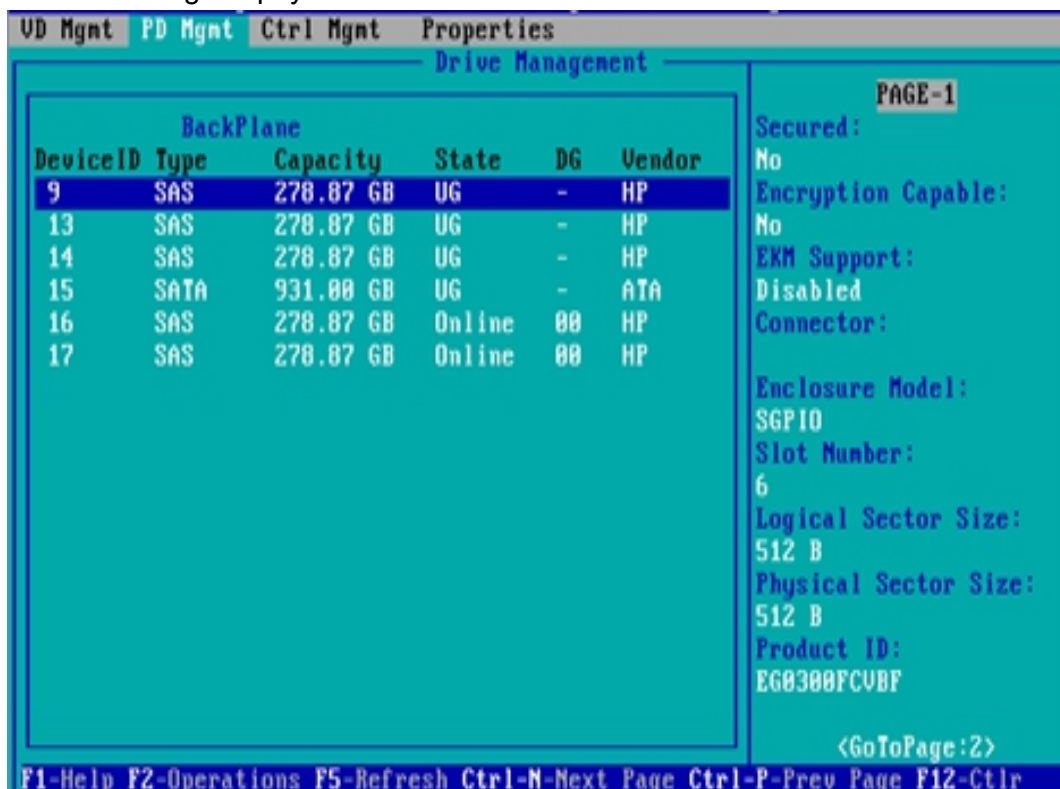

Figure 6-126
a) As shown in figure 6-126, select the physical disk to be erased in the PD MGMT interface, and press F2.
✧ Figure 6-126 selecting the physical disk to be erased